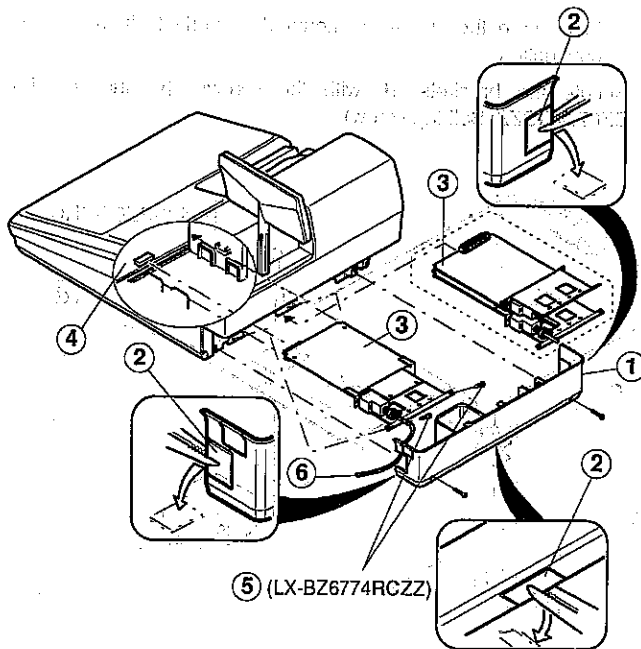

Fig. 4
- 3) Remove two rear cover holding screws and remove the rear cover (Fig.4).
- 4) Break open the knockout (2) of the rear cover (1) (Fig.4). After breaking open the knockout (2), file off the new hole.
- 5) Insert the interface PWB (3) onto the connector of the main PWB (4), and fasten the bracket to the main chassis using screws (5) (LX-BZ6774RCZZ: Self tap screw) (Fig.4).
- 6) Route the external cable ⑥ through the hole and fasten the rear cover (Fig.4)
In the ER-A550, option cables can be pulled out from three points in the rear cover of the body. Refer to figs. 4, 7, 8 and 9.